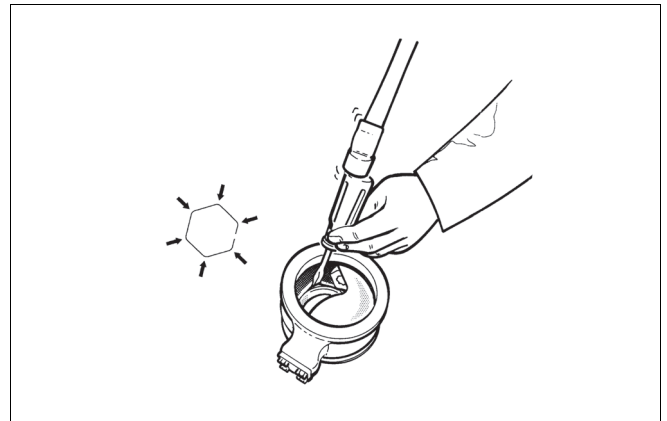
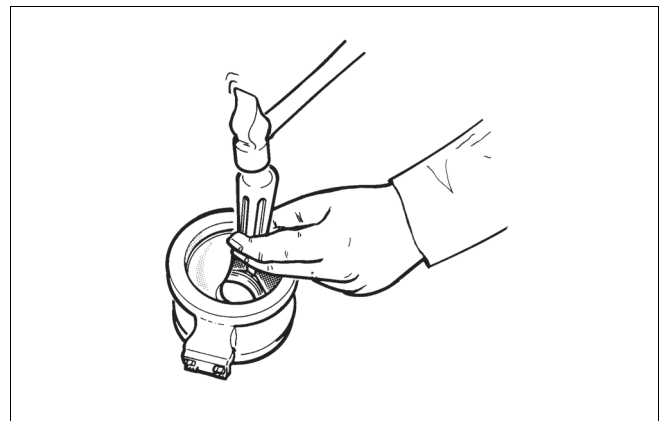

Fig. 29 Knocking the spring into the groove
Fig. 30 Knocking the spring after turning the seat around
- Place a screwdriver on each visible spring angle one after the other and knock the spring into the groove, see Fig. 29.
- Turn the segment 180° clockwise and knock the rest of the spring angles into the groove, Fig. 30. A special tool available from the manufacturer may also be used for the work phases in Figs. 29 and 30.